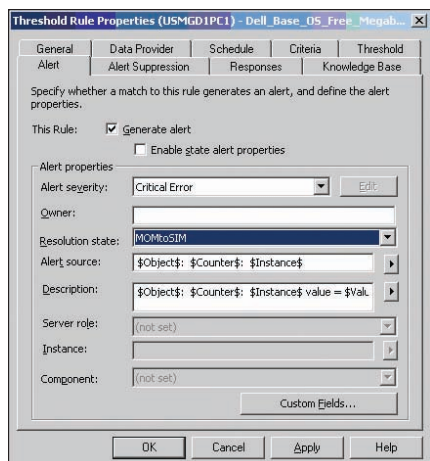

Figure 4. MOMtoSIM resolution state in Microsoft Operations Manager 2005
- Configure individual event rules in the Alert tab to use the MOMtoSIM resolution state (see Figure 4), which sends alerts to SIM for processing